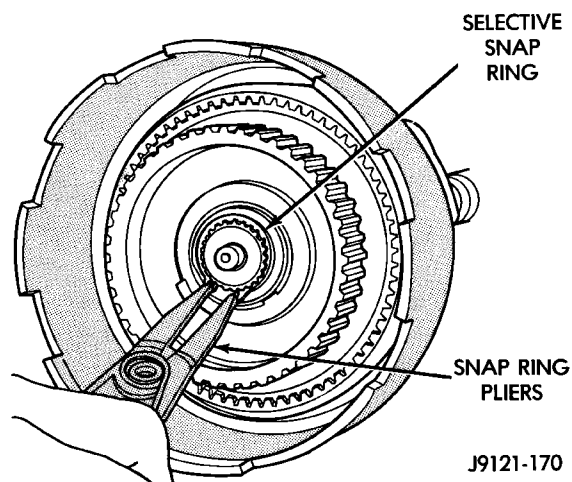
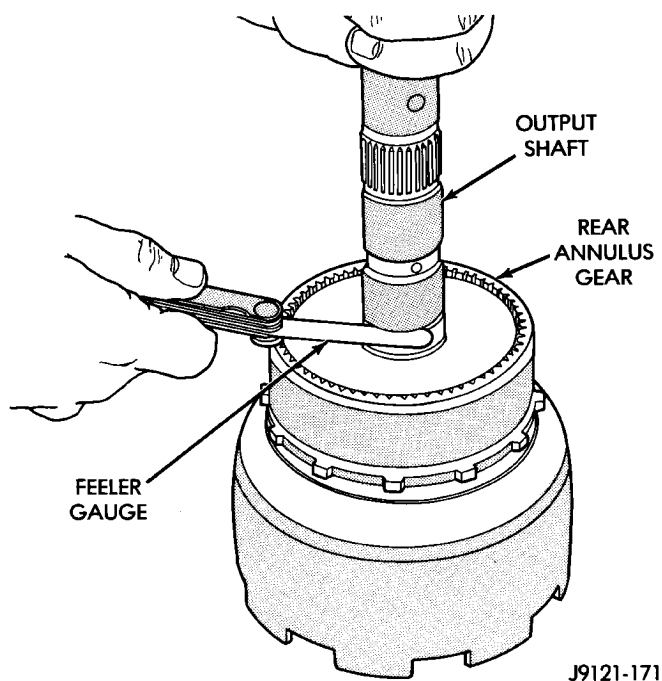

Fig. 183 Installing Planetary Selective Snap Ring
Fig. 184 Checking Planetary Geartrain End Play
(21) Install planetary selective snap ring with snap ring pliers (Fig. 183). Be sure ring is fully seated.
(22) Turn planetary geartrain assembly over so driving shell is facing workbench. Then support geartrain on wood block positioned under forward end of output shaft. This allows geartrain components to move forward for accurate end play check.
(23) Check planetary geartrain end play with feeler gauge (Fig. 184). Gauge goes between shoulder on output shaft and end of rear annulus support.
(24) Geartrain end play should be 0.12 to 1.22 mm (0.005 to 0.048 in.). If end play is incorrect, snap ring (or thrust washers) may have to be replaced. Snap ring is available in three different thicknesses for adjustment purposes.